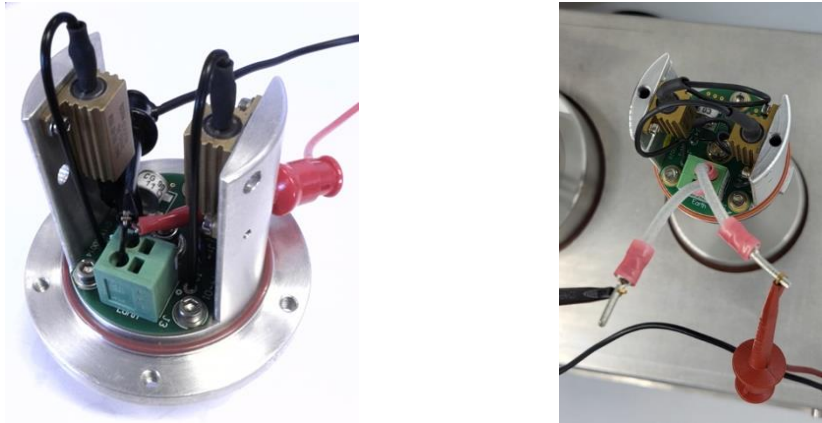

Figure 11-69: Bushing adaptor measurement - BA Installed
- Connect the Antenna Analyser to the Busing Adaptor using the test lead as shown in Figure 11-69.